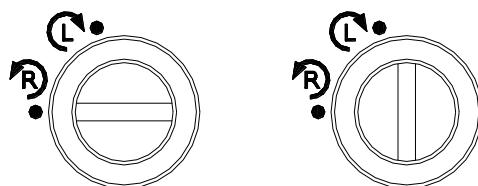

Fig. 4
The selection screw must be oriented with the groove vertical (L) or horizontal (R), otherwise the fuel unit will not function properly and damage could result (Fig.4).